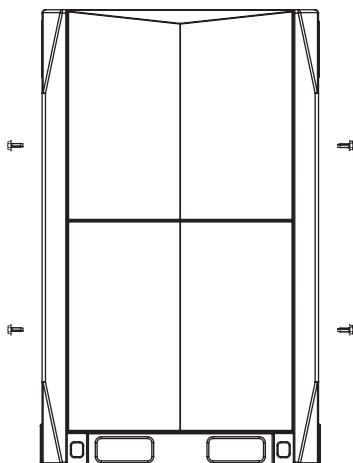

Fig. 4-15
1. First, dismantling the frontal left and right upright posts: dismantle the 4 screws of the left and right upright posts. ( Fig 4-15), and then rotate the upright posts and uplift them for around 2mm( Fig 4-16 and Fig 4-17) to remove the left and right upright posts.